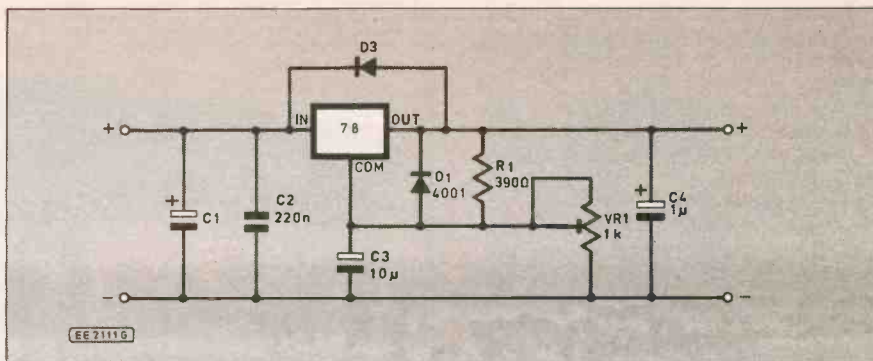
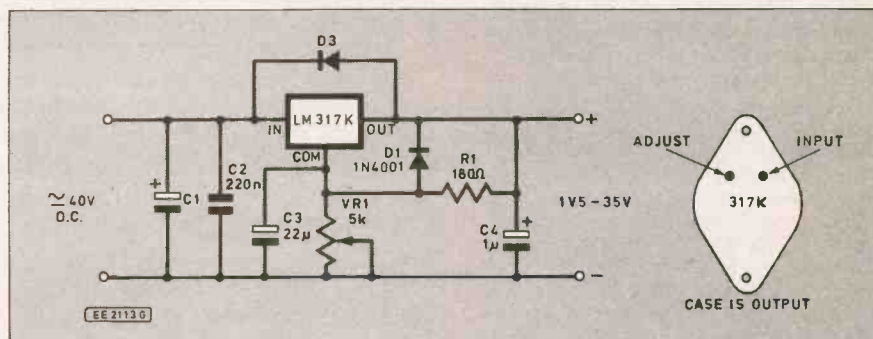
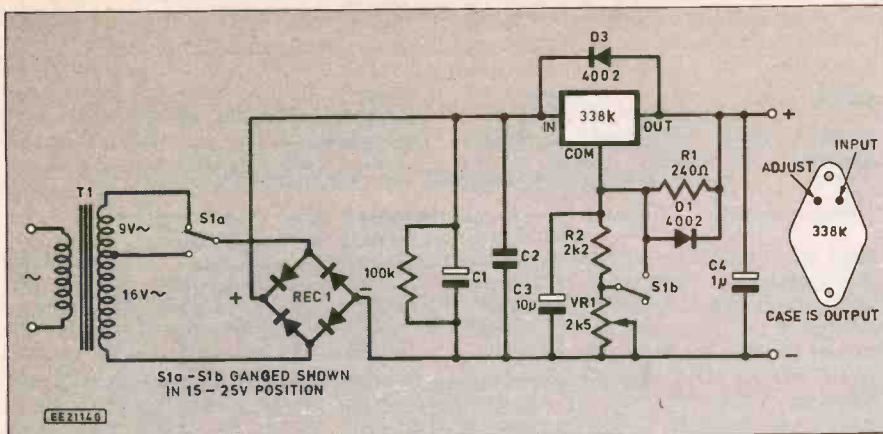

Fig.2.6. This circuit gives a relatively large range of output voltages.
Fig.2.8. Practical circuit diagram for variable voltage output. Note that an insulation kit should be used for mounting the regulator i.c.
Fig.2.9. Practical circuit diagram for a 0-25V 5A stabilized power supply.
This method is no use if substantial voltage increases are wanted, say, raising the output of a 5V regulator to 9V or more. A better arrangement would be to use the system shown in Fig.2.6. Here the common terminal is taken to a potential divider made up of a resistor R1 and preset VR1.
Some of the smaller components needed for a stabilized power supply can be mounted on a printed circuit board (p.c.b.). The design of such a p.c.b. will be published next month. The circuit of Fig. 2.6 could also be built on this board.
A basic practical circuit for the 317K is shown in Fig.2.8 and is similar to that shown in Fig.2.6 but with the values for R1 and VR1 being 180Ω and 5000Ω (5k) respectively. The range covered is from about 1.5V to 35V at a current maximum of 1.5A, and this makes a useful variable stabilized supply for experimental work.
again the basic arrangement is similar to Fig.2.8, but a switching system is introduced to break the output into two ranges: 1.5V to 15V and 15V to 25V.
A small additional winding on the transformer of about 6V r.m.s is rectified by a single diode D4 and smoothed by capacitor C5. The current requirement is very small and a 470µF capacitor is adequate. This then connects to the circuit systems of either Fig.2.8 or Fig.2.9; only the relevant connections are shown.
By using a 338K regulator, an output of about 1.5V to 25V at a current of 5A can be obtained using the circuit of Fig.2.9. Here
**Next Month:** A universal printed circuit board (p.c.b.) design will be given which, using the circuit of Fig.2.6, will enable any fixed voltage between 6V and 15V to be obtained using only the 7805 regulator. We will also start looking at project designs for stabilized (non-integrated) power supplies over the range 0-30V at currents up to 2A.